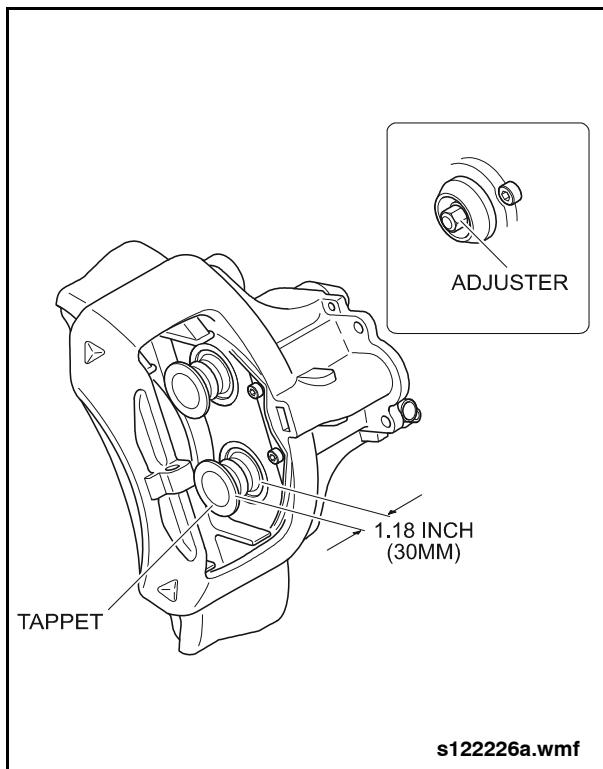

Fig. 2-134: Unscrewing Tappets
2. Rotate the adjuster clockwise until the tappets extend approximately 1.18" (30) from the caliper surface. This will allow full extension of the tappet rubber boot for insertion of the removal tools. See "Fig. 2-134: Unscrewing Tappets" on page 116.